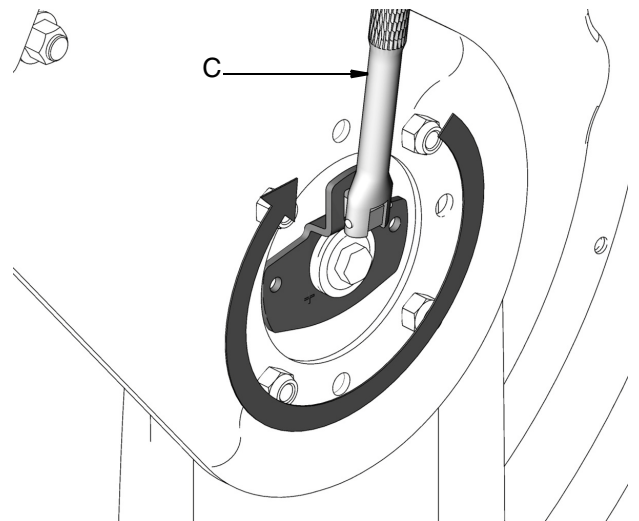

FIG. 13
4. Turn ratchet (C) one full turn, clockwise (FIG. 13).